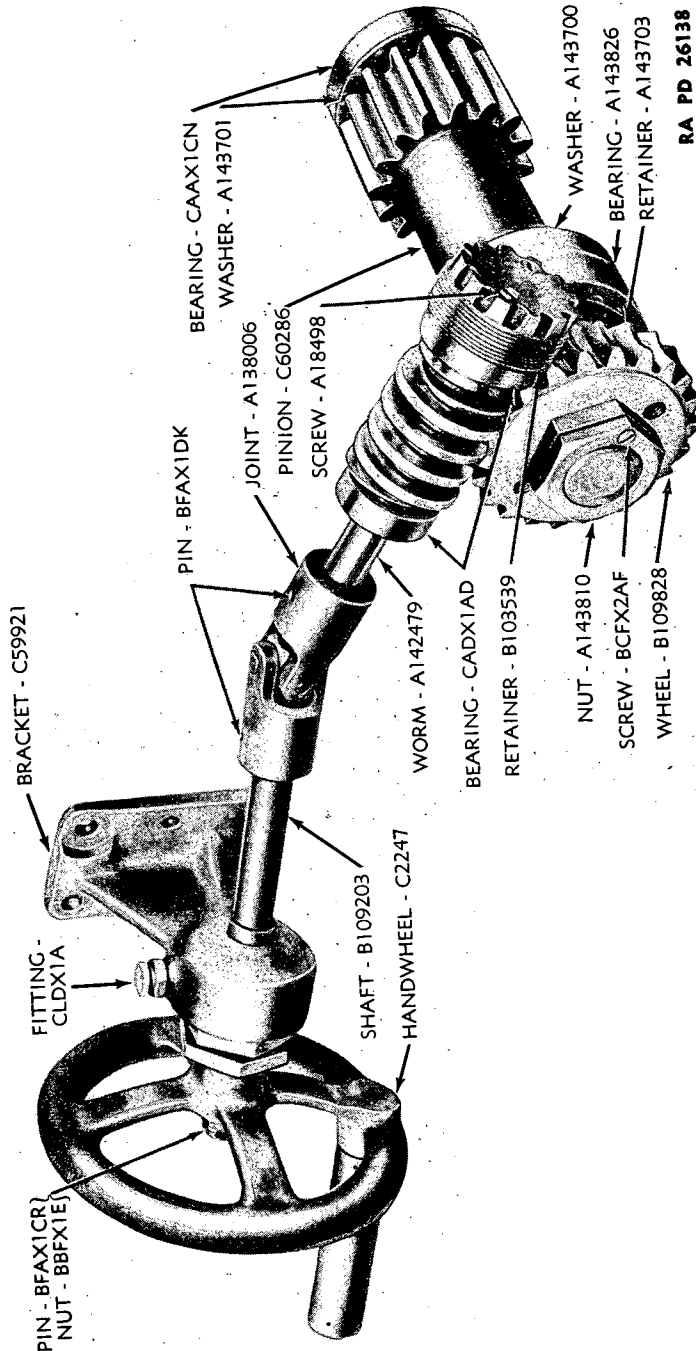

Figure 119—75-mm Howitzer Carriage M3A3—Elevating Mechanism Arrangement
(2) The tipping parts of the piece may be elevated or depressed by means of the elevating handwheel, located on the right side of the top carriage.
(3) The major parts of the elevating mechanism are the elevating handwheel, handwheel shaft, handwheel shaft bracket, flexible joint, worm, worm wheel, pinion, and antifriction bearings (fig. 119).
(3) REMOVE ELEVATING HANDWHEEL SHAFT BRACKET (figs. 119 and 120).